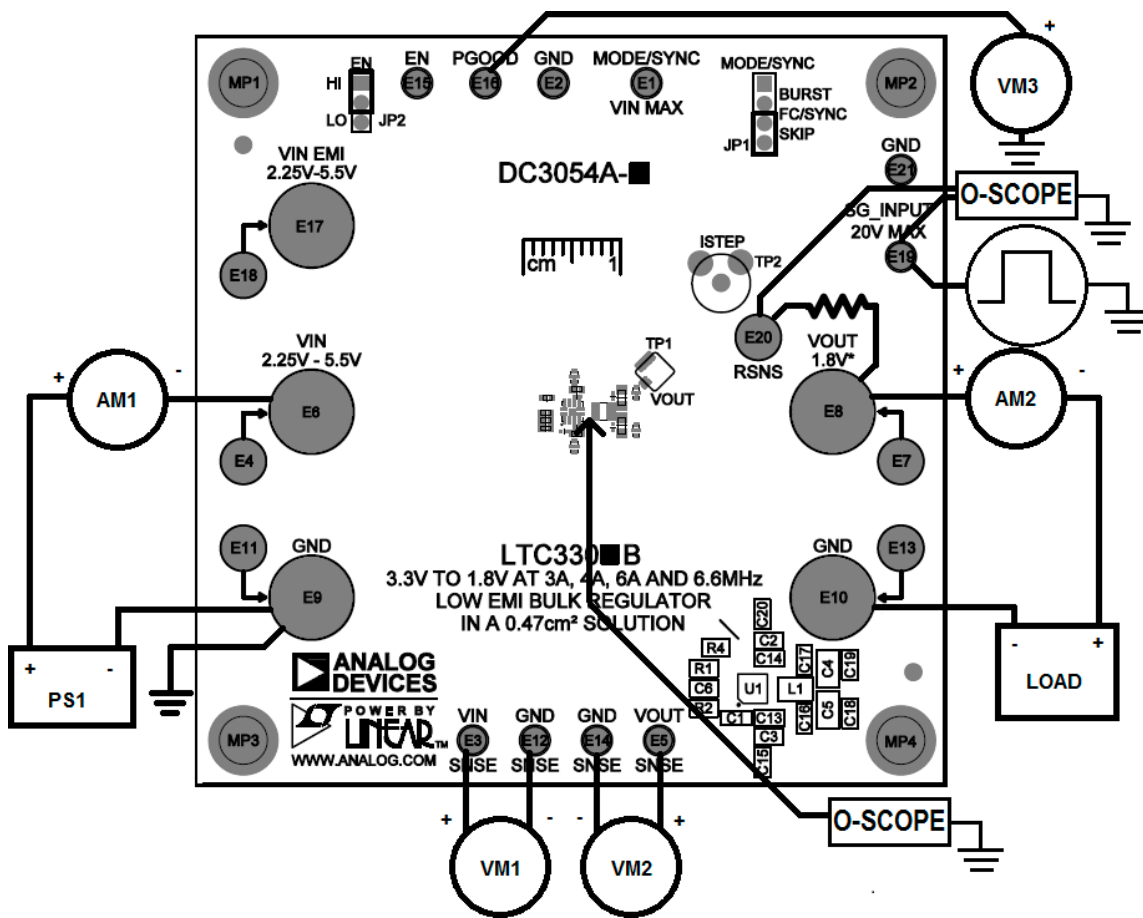

Figure 1. Test Setup for the DC3054A-B Demo Board
Demonstration circuit 3054A-B is easy to set up and use to evaluate the performance of the LTC3308B. Refer to Figure 1 for proper measurement equipment setup and follow the procedure below:
NOTE: For accurate V_{IN} , V_{OUT} and efficiency measurements, measure V_{IN} at the V_{IN} SNSE and GND SNSE turrets and V_{OUT} at the V_{OUT} SNSE and GND SNSE turrets as illustrated as VM1 and VM2 in Figure 1. When measuring the input or output voltage ripple, care must be taken to avoid a long ground lead on the oscilloscope probe.
13. To test the transient response with a base load, add the desired resistor to produce a minimum load between V_{OUT} and RSNS turrets (R_L shown on Figure 1). Note that the total load resistance will be R_L plus R11 (100m Ω).